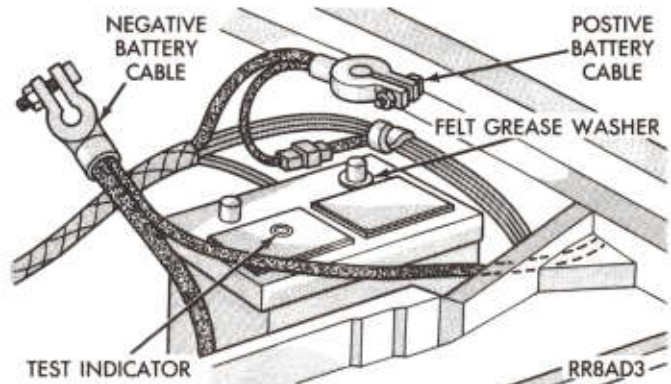

Fig. 8—Battery Cables Disconnected
(12) Place felt grease washer onto Positive (+) battery post.
(13) Connect cable clamps to battery post making sure top of clamp is flush with top of post (Fig. 8).
(14) Tighten clamp nut securely.